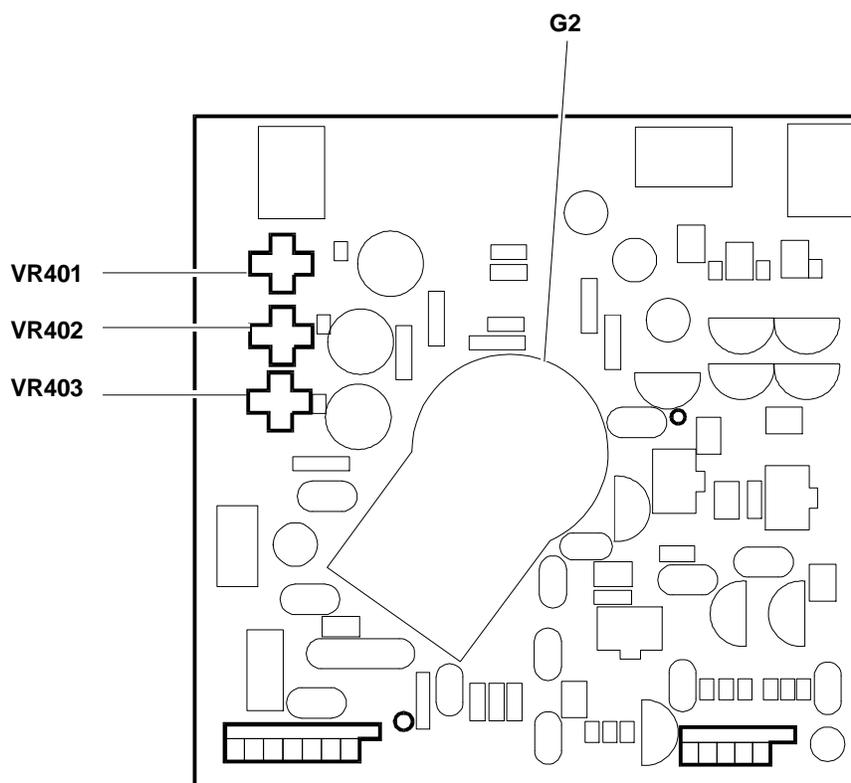

Fig. 42-13 Video Amplifier Board Adjustments
- Adjust the Screen potentiometer of the FBT transformer on the main board until measuring a voltage of 560 ± 10 V on pin G2 (see figure 42-13) of the video amplifier board.